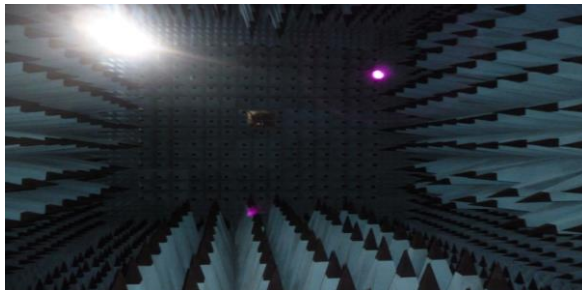

Figure. 2
- A. The 3D chamber provides less than -40dB reflectivity from 600MHz to 6GHz and a 40cm diameter spherical quiet zone. The measurement results are calibrated using both dipoles and standard gain horns (see figure. 2).